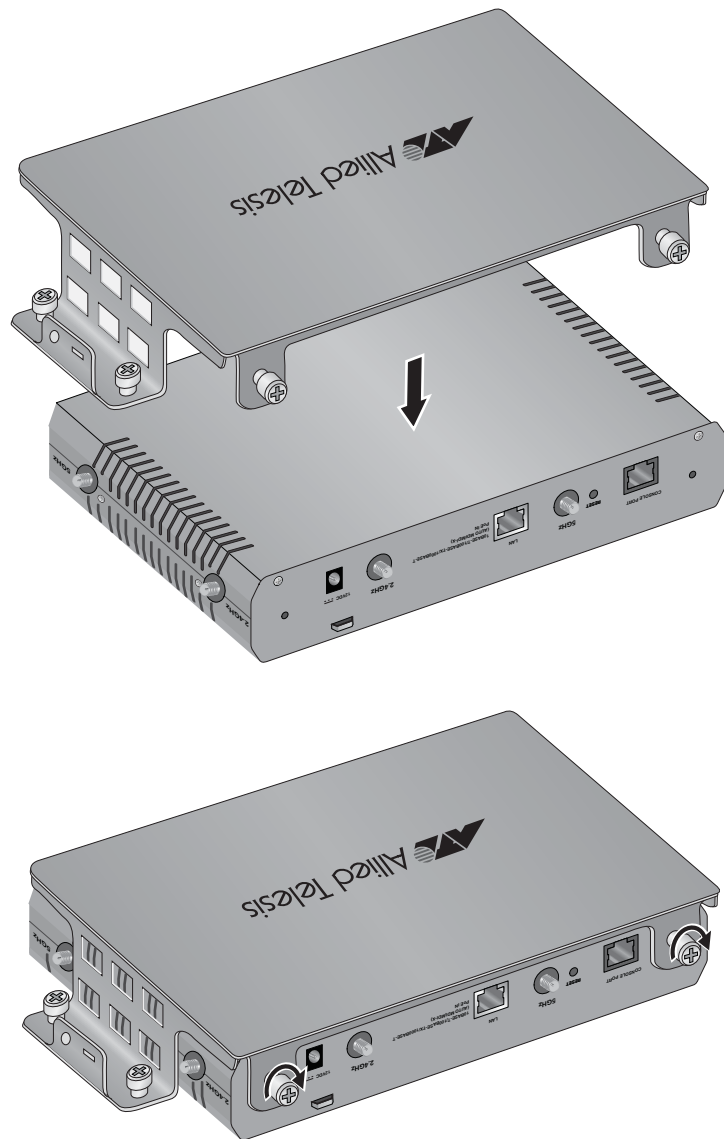

Figure 20. Attaching the Top Panel to the Access Point
3. Lower the top panel over the access point as shown in Figure 20 on page 42 and secure it by tightening the two retaining screws into the two corresponding holes on the rear panel of the access point.